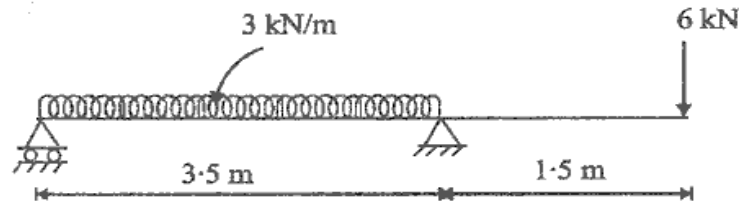

Fig. 4
8. Draw the shear force and bending moment diagrams for the beam shown in fig. 4. Find the value of maximum B. M. and mark the point of contraflexure, if any. 20